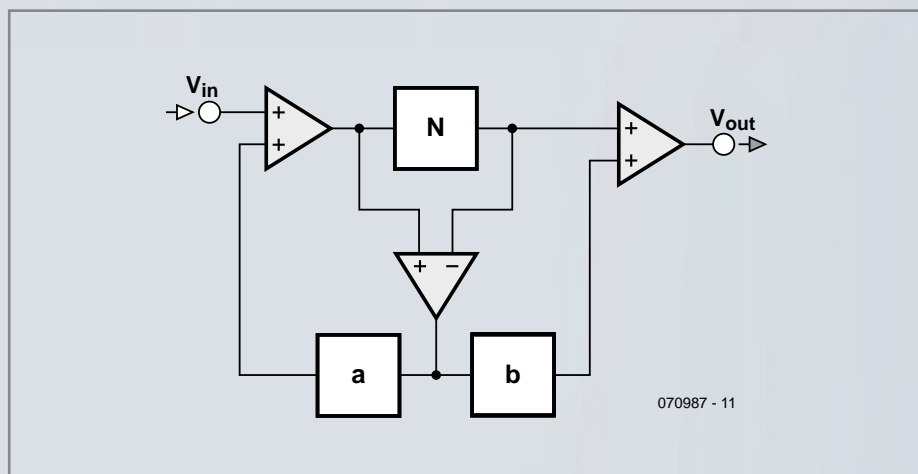

Figure 1. Hawksford's general feedback/feedforward/error correction structure.
**Figure 1** is the basic topology from that paper. We see an amplifier block N, on which the error correction will be ap-